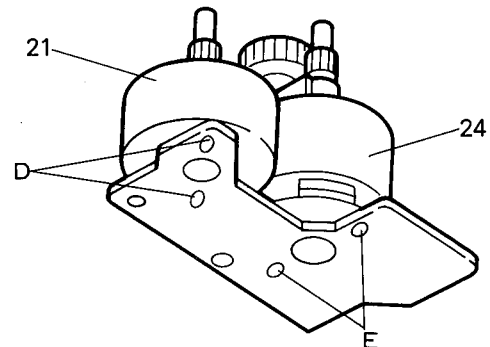

Fig. 5-49
2. When removing the reel motor, unsolder the two points (D) on the back side. (Fig. 5-49)
3. When removing the actuator motor, unsolder the two points (E) in the same manner. (Fig. 5-49)